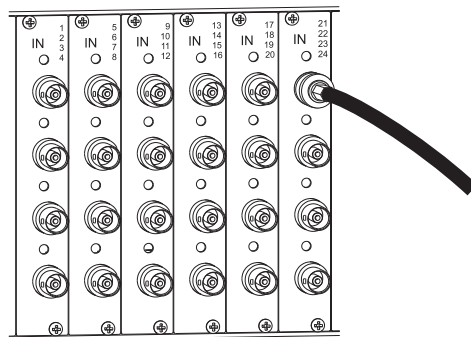

FIG. 77 Fasten cable onto input or output BNC connector
1. Fasten the cables onto the input and output BNC connectors (FIG. 77).